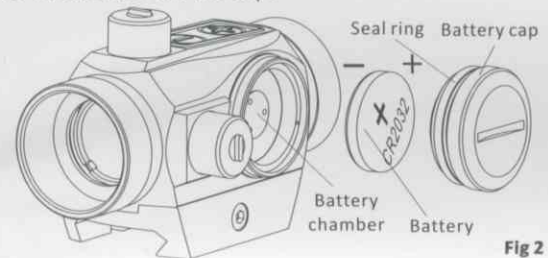

Fig 2
3. Please see the Fig 2 for battery installation and Replacement:
- ① Left-turning to open the battery cap.
- ② Insert the battery into the battery chamber with the right marked polarities "+", "-", See Fig2, Take the waste battery out for replacement.
- ③ Rotate to close the cap .